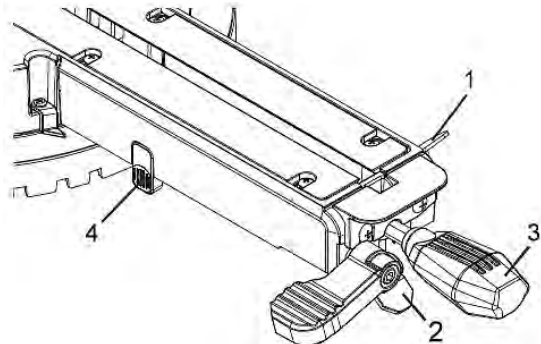

Fig. 37: Quick cam locking lever
8.8 Quick cam table locking application (Fig. 37)
Mitre lock bridging (Fig. 37)